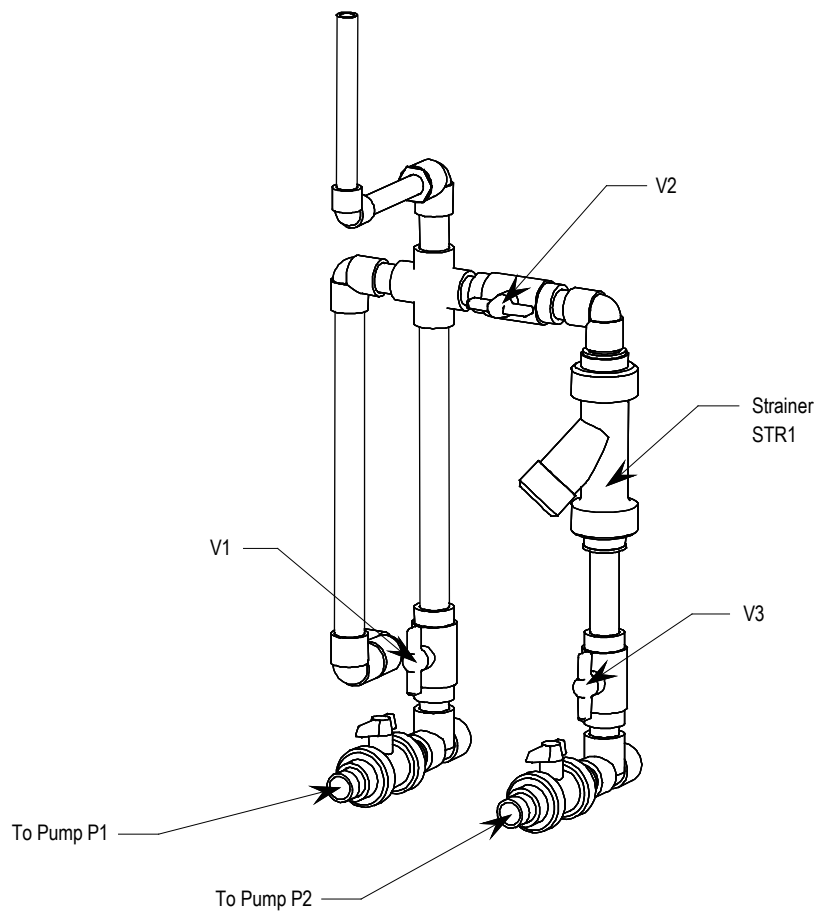

Figure 4.62 – Cleaning the Strainer
1. Open valve V1, shown in Figure 4.62, to ensure flow to the pumps.